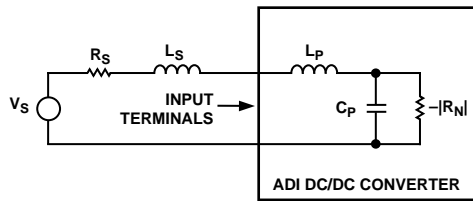

Figure 33. Model of Power Source and POL Converter Connection
**Potential System Instability:** The preceding analysis assumes dc voltages and currents. For ac waveforms the incremental input model for the POL converter must also include the effects of its input filter and control loop dynamics. When the POL converter is connected to a power source, modeled as a voltage source,  $V_S$ , in series with an inductor,  $L_S$ , and some positive resistor,  $R_S$ , the network of Figure 33 results.
The network shown in Figure 33 is second order and has the following characteristic equation: